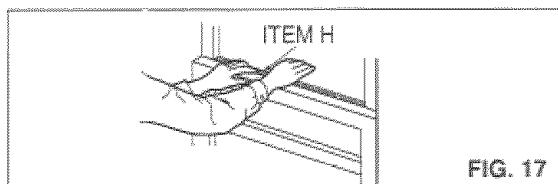

FIG. 17
- 16** Cut the foam strip (ITEM H) to the proper length and insert between the upper window sash and the lower window sash. (FIG. 17)